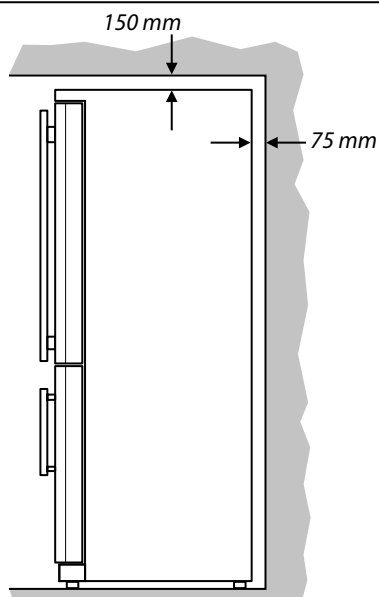

Fig. 9.2
- Install the two plastic distance guides to prevent the condenser from touching the wall. Refer to (**Fig. 9.2**).